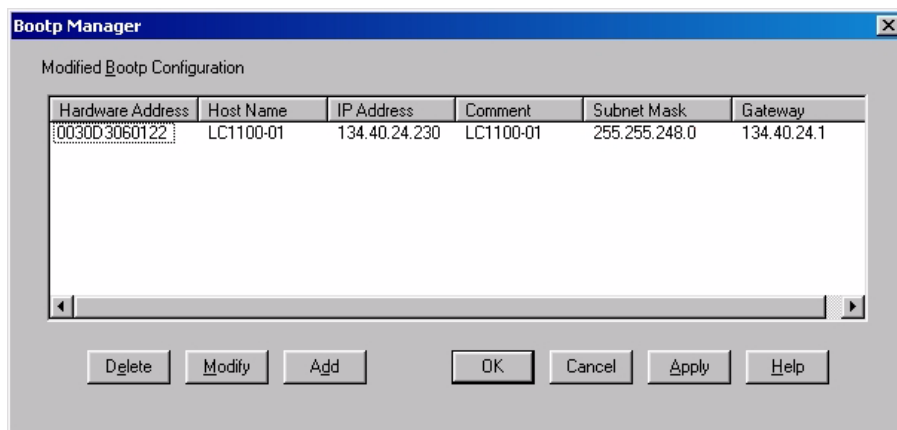

Figure 16 Bootp Manager
- Select *Configure* -> *Bootp Manager*. All entries made above are shown in Figure 16 on page 75.